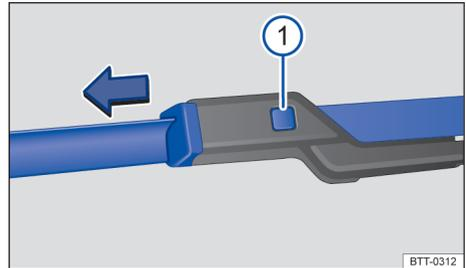

Fig. 133 Replacing windscreen wiper blades.
- Press and hold the release button → Fig. 133 ① and pull off the windscreen wiper blade in the direction of the arrow